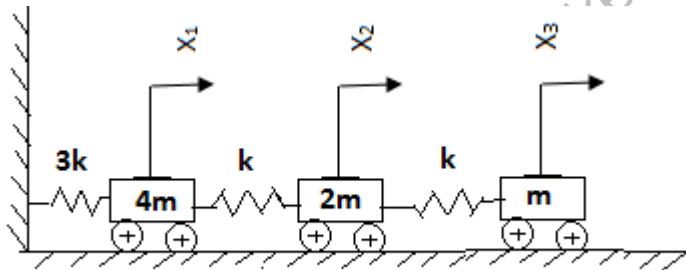

Fig.2
- 3). Determine the natural frequencies and mode shapes of the system shown in the Fig.2.